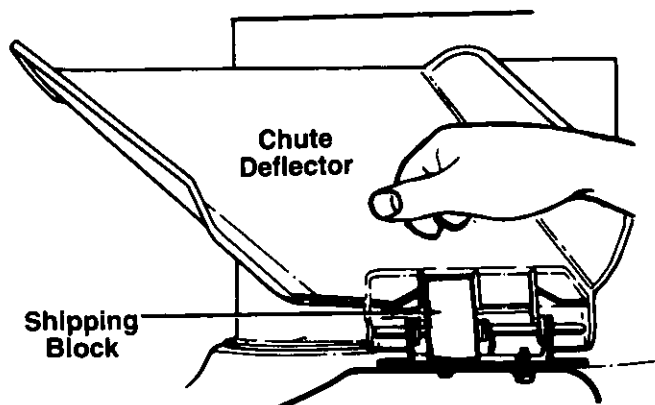

FIGURE 10.
1. The chute deflector on your mower is held in an upright position by a block for shipping purposes only. This shipping block must be removed and discarded before the mower is put into operation. To remove the shipping block, move the spring-loaded chute toward the engine by pushing above the shipping block. See figure 10. Remove the block and carefully lower the chute into operating position, keeping fingers out of the way.